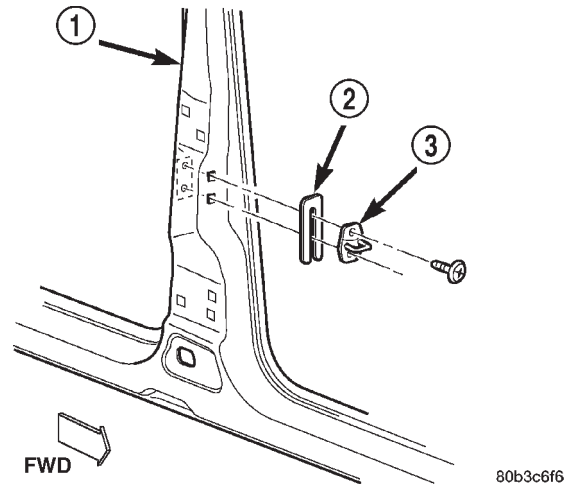

Fig. 12 Front Door Latch Striker
- (1) Remove screws attaching striker to B-pillar.
- (2) Separate striker and spacer from B-pillar (Fig. 12).
- (1) Position striker and spacer on B-pillar.
- (2) Install screws attaching striker to B-pillar. Tighten screws to 28 N·m (20 ft. lbs.) torque (Fig. 12).